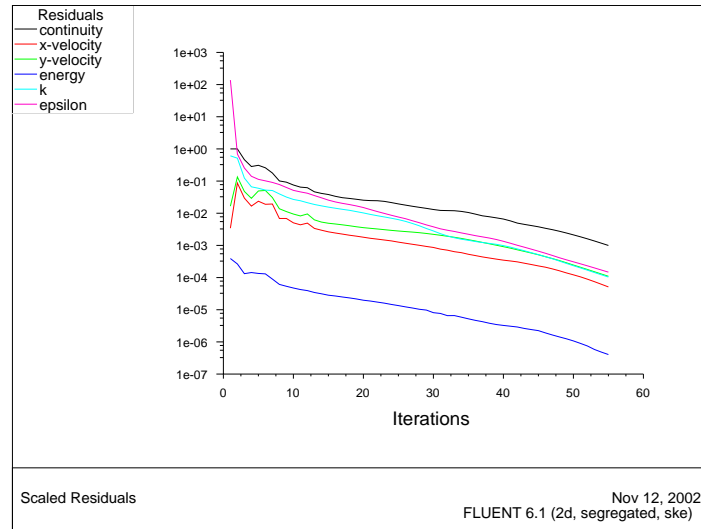

Figure 1.3: Residuals for the First 60 Iterations
*The solution reaches convergence after approximately 60 iterations. The residual plot is shown in Figure 1.3. Note that since the residual values are different for different computers, the plot that appears on your screen may not be exactly the same as the one shown here.*